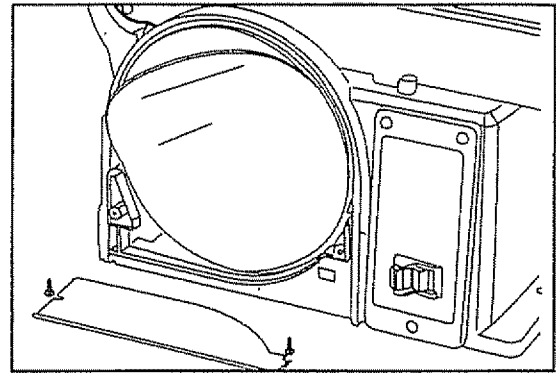

Fig. 5
■ Installing the sanding disc (see figure 5)